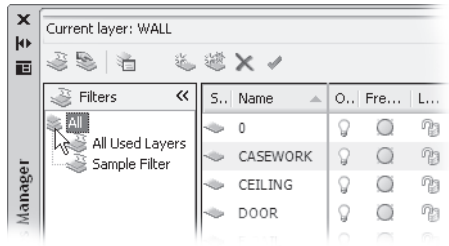

Figure 7.24
- 1. Click the All option in the filter list at the left side of the palette, as shown in Figure 7.24.